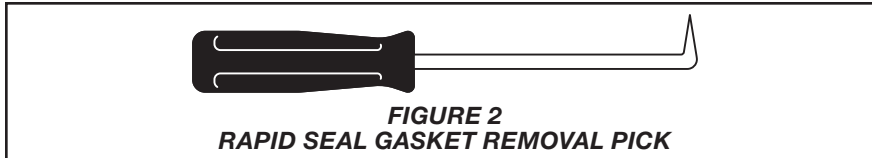

FIGURE 2
Step 2. Using the Rapid Seal Gasket Removal Pick, (Ref. Figure 2) carefully remove the gasket from the RSA fitting. Discard the old gasket.